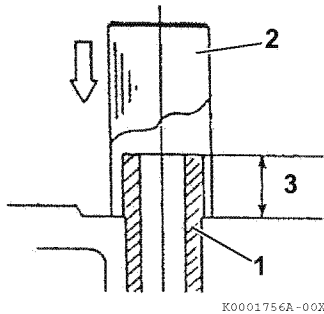

Figure 6-25
3. Finish installing the valve guides (Figure 6-25, (1)) to the proper height (Figure 6-25, (3)) using the valve guide installation tool (Figure 6-25, (2)). See Valve Guide Projection specification on page 6-4.